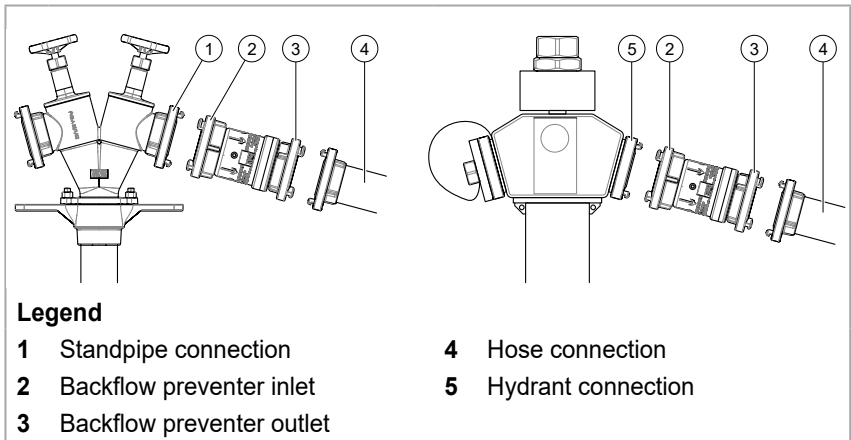

Fig. 2 Handling
1. Connect the coupling on the inlet side of the backflow preventer (Fig. 2/2) to the standpipe (Fig. 2/1) or the above-ground hydrant (Fig. 2/5) by hand or using a coupling spanner.
2. Connect the hose coupling (Fig. 2/4) to the outlet side of the backflow preventer (Fig. 2/3) by hand or using a coupling spanner.
2. Detach the hose from the backflow preventer on the outlet side (Fig. 2/3) by hand or using a coupling spanner.
3. Disconnect the coupling from the standpipe/above-ground hydrant on the inlet side of the backflow preventer (Fig. 2/2) by hand or with a coupling spanner.